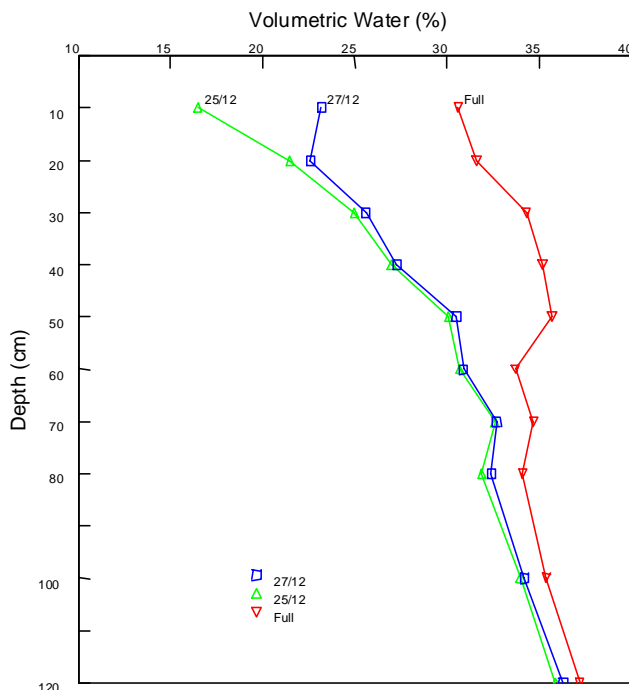

Figure 4. Further reduction in infiltration after fourth irrigation.
- By the fourth irrigation, only 25 mm was added to the top 20cm which was then repeated on a regular basis till the last irrigation. (Figure 4).